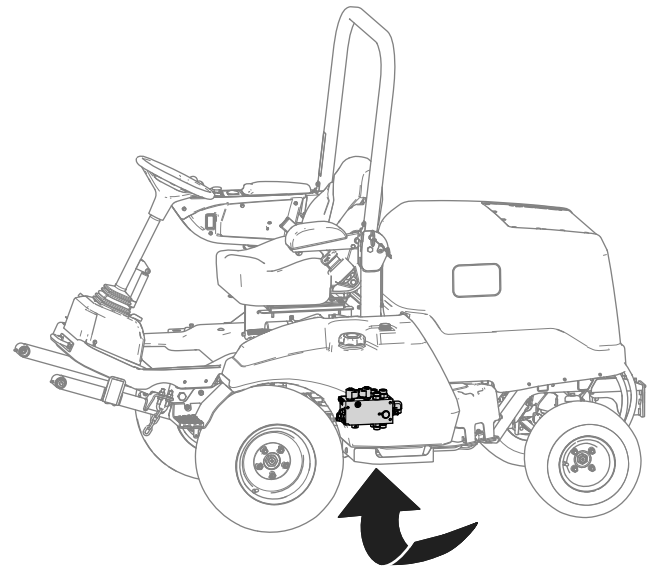

Figure 22
- Locate the lift manifold from under the machine (Figure 22).